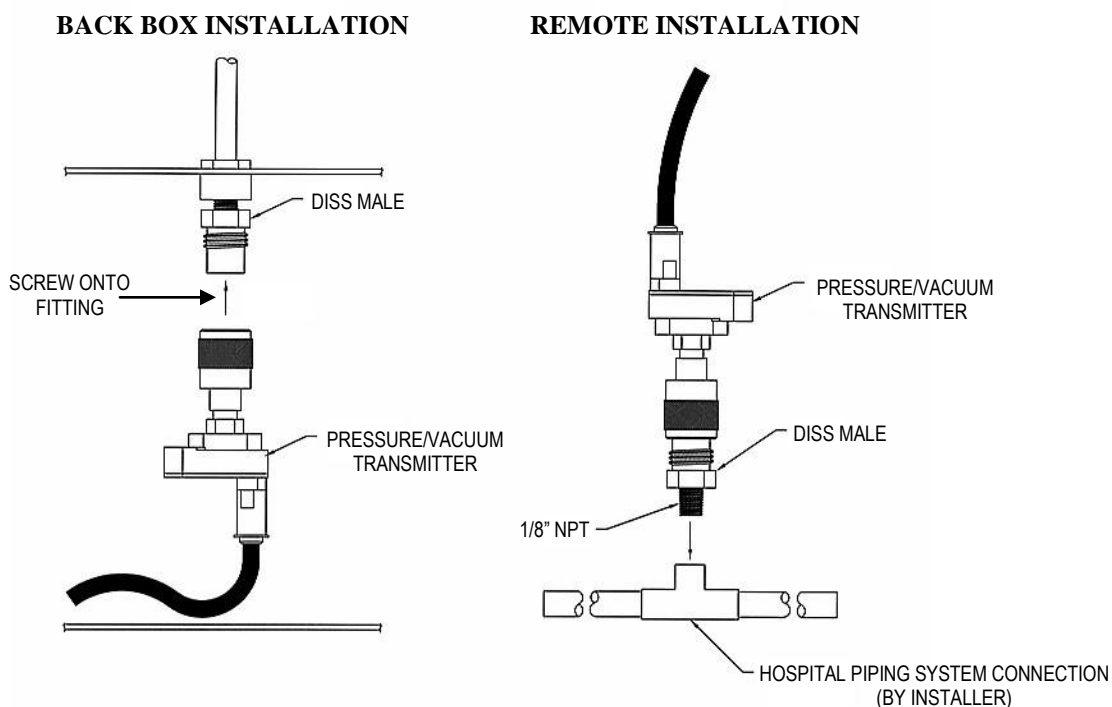

Figure 14 – Transmitter Installation
4.2.7.1 Installing the Pressure/Vacuum Transmitter inside the Back Box. For #1 Module, assemble the transmitter to the left male DISS fitting (see Figure 14). Repeat this step for each Transmitter. Refer to Paragraph 4.2.8.1 for wiring instructions.
4.2.7.2 Installing the Pressure/Vacuum Transmitters outside the Back Box (see Figure 14) Install a 1/8-27 NPT connection in the hospital piping system at intended location of Transmitter (install per NFPA 99). Screw a male DISS fitting into the above installed connector.
Assemble the transmitter to the male DISS fitting (see Figure 14). Repeat this step for each Transmitter. Refer to Paragraph 4.2.8.2 for wiring instructions.